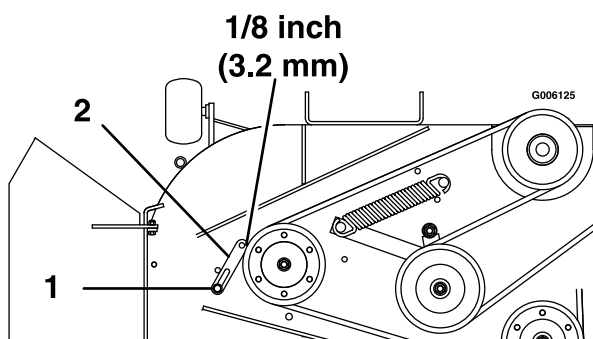

Figure 17
3. Note belt guide bolted to deck near the shield support stud and right-hand pulley. Guide should be 1/8 inch (3.2 mm) away from the belt, with bolt-end of guide near end of slot (Figure 17).